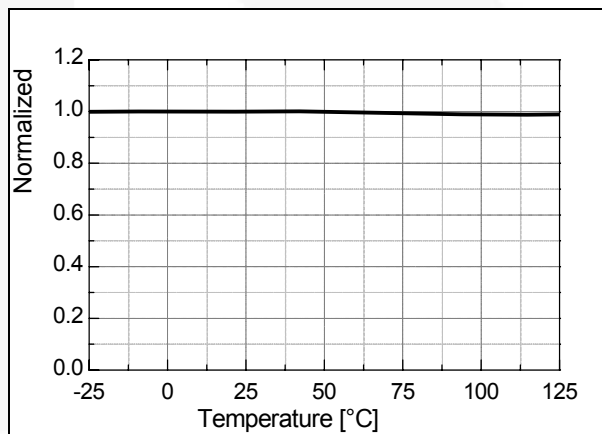

Figure 22. Burst-Mode High Threshold Voltage (V_{burh}) vs. T_A
1. Startup: At startup, an internal high-voltage current source supplies the internal bias and charges the external capacitor (C_a) connected to the V_{CC} pin, as illustrated in Figure 22. When V_{CC} reaches 12V, the FPS™ begins switching and the internal high-voltage current source is disabled. The FPS continues its normal switching operation and the power is supplied from the auxiliary transformer winding unless V_{CC} goes below the stop voltage of 8V.